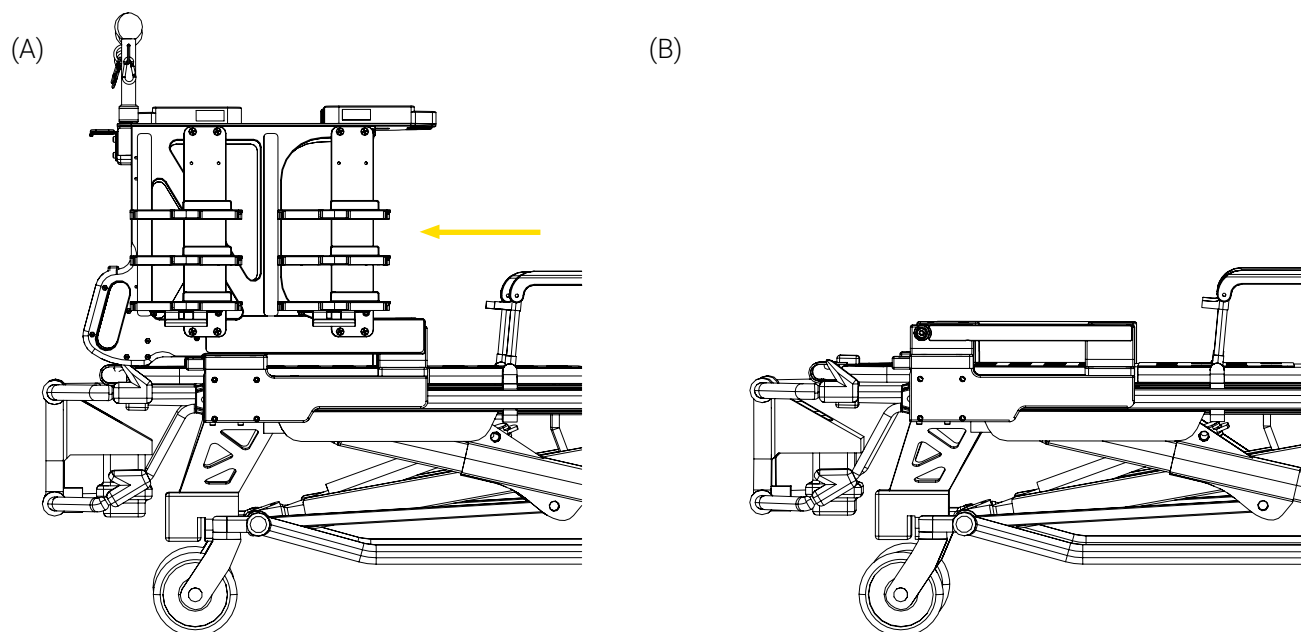

Figure 45: Removing the mobile structure
14. Pull the mobile structure towards the patient foot end until it has been removed (Figure 45).